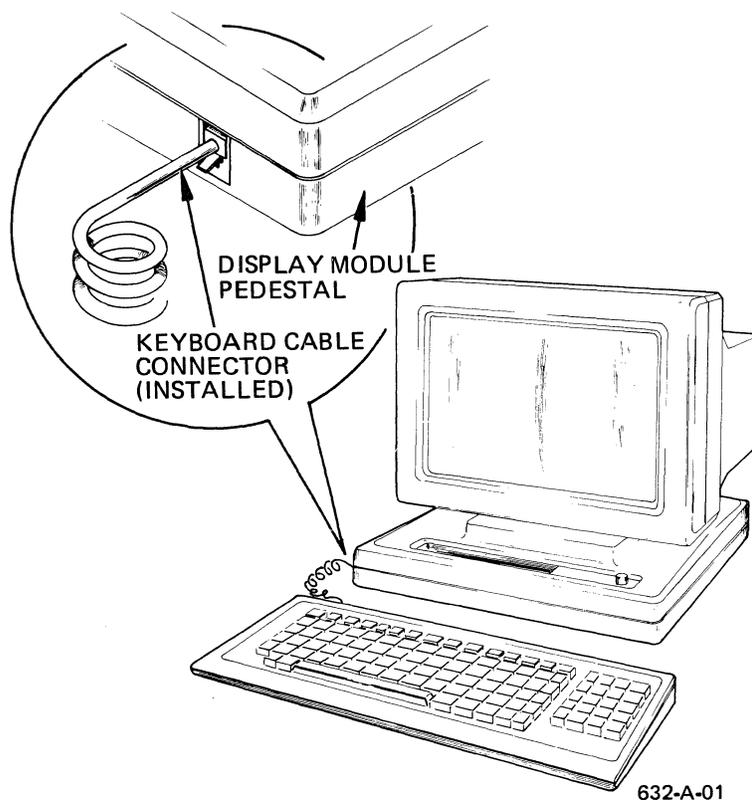

Figure 2-3. Keyboard Cable Connection to the Display Module
5. Connect the coiled keyboard cable to the connector on the left front corner of the display module pedestal (refer to Figure 2-3).